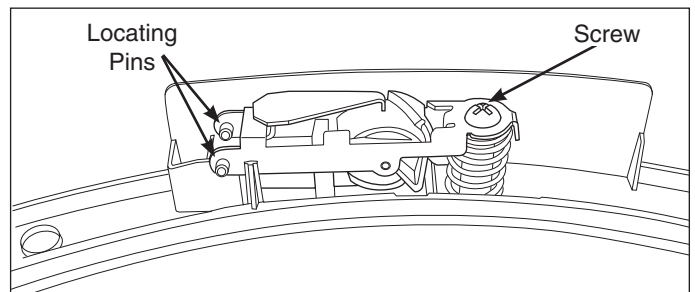

Figure 4-5.
3. Using a #2 Phillips head screwdriver from the underside of the latch plate, extract the screw while compressing the spring assembly. (See Figure 4-5)